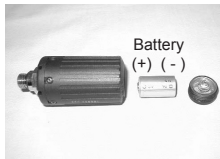

Fig. 130 - TRT BATTERY
- Place a new 3 volt, CR2, Lithium Battery (Duracell model DL-CR2 or equivalent) positive (+) side down into the Battery Compartment with the negative end facing up/out (Fig. 130).